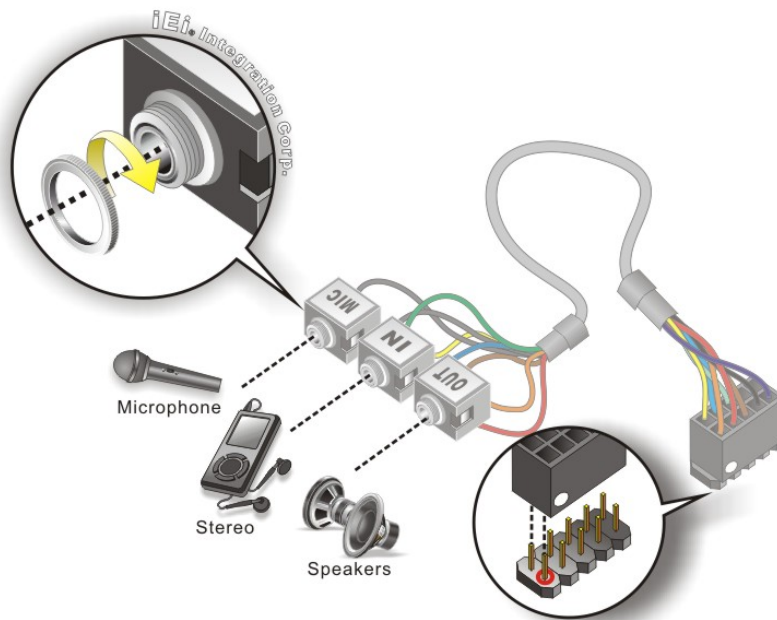

Figure 4-21: Audio Kit Cable Connection
- Step 2: Align pin 1.** Align pin 1 on the on-board connector with pin 1 on the audio kit connector. Pin 1 on the audio kit connector is indicated with a white dot. See **Figure 4-21**.